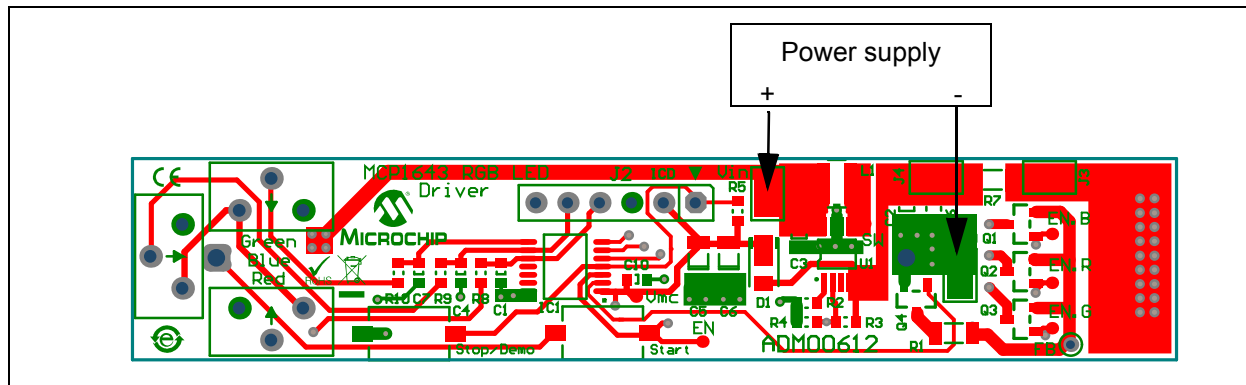

FIGURE 2-3: MCP1643 RGB LED Driver Demonstration Board Power Supplies.
1. Connect the input supply as shown in Figure 2-3, or connect a AA battery in the battery slot on the back of the board. Please observe the polarity to avoid board damage.